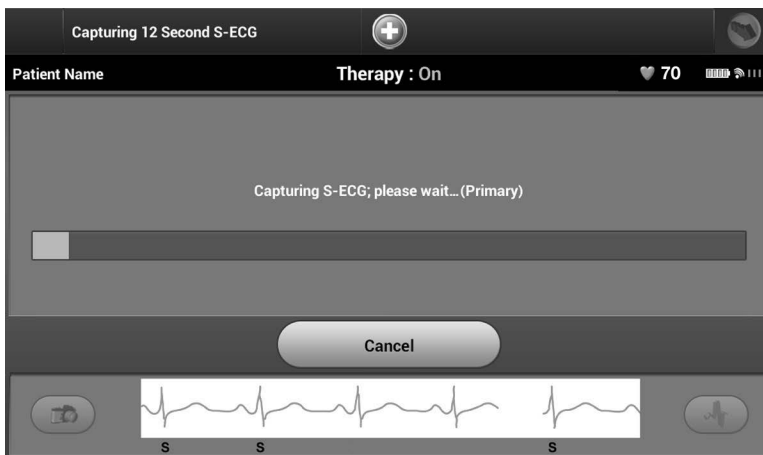

Figure 47: *Capture all sense vectors*
2. The Capturing 12 Second S-ECG screen will appear and display the status of the sense vector capture process (Figure 47).